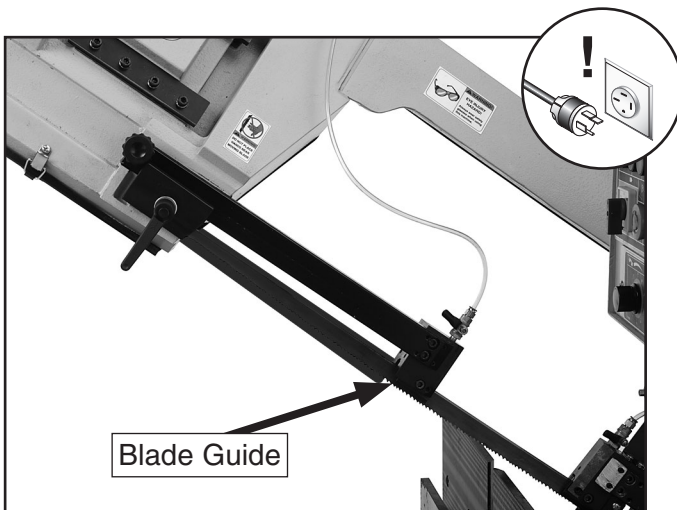

Figure 53. Blade guide extended.
4. Extend the blade guide as far as possible and lock it in place (**Figure 53**).